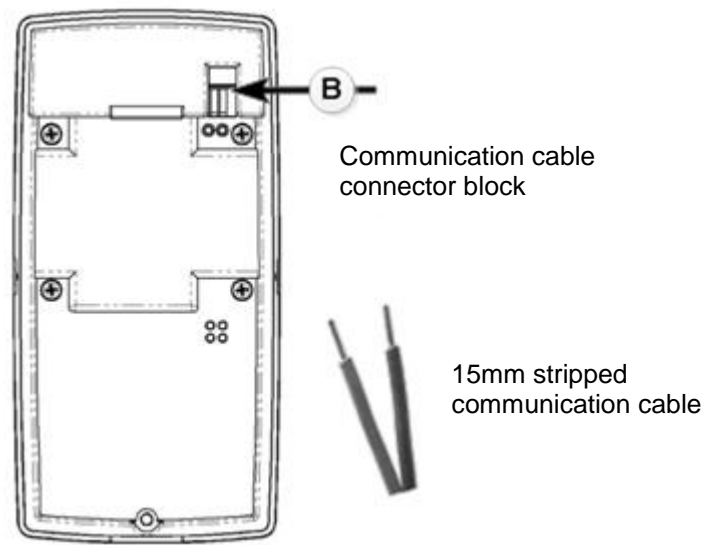

Figure 3-2: UIU back view
5. Connect the communication wires for the UIU by pushing back on the orange clips and inserting the wires (*Figure 3-2-A*).